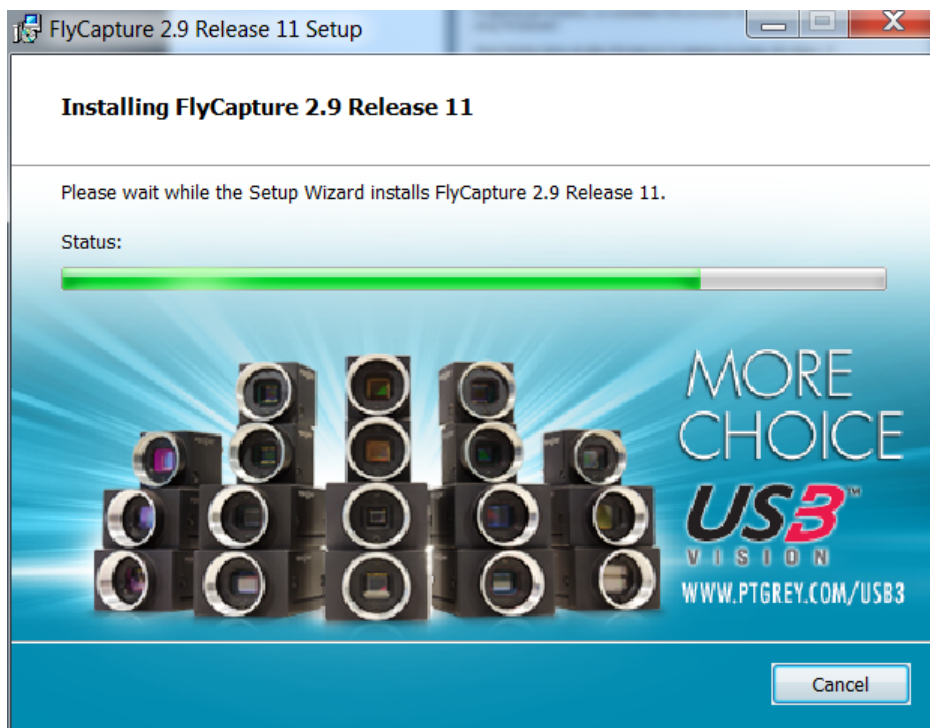

Figure 2-13. FlyCapture2 SDK Installation Progress Bar
13. Wait for the FlyCapture2 SDK files to install. The progress bar is shown in Figure 2-13.